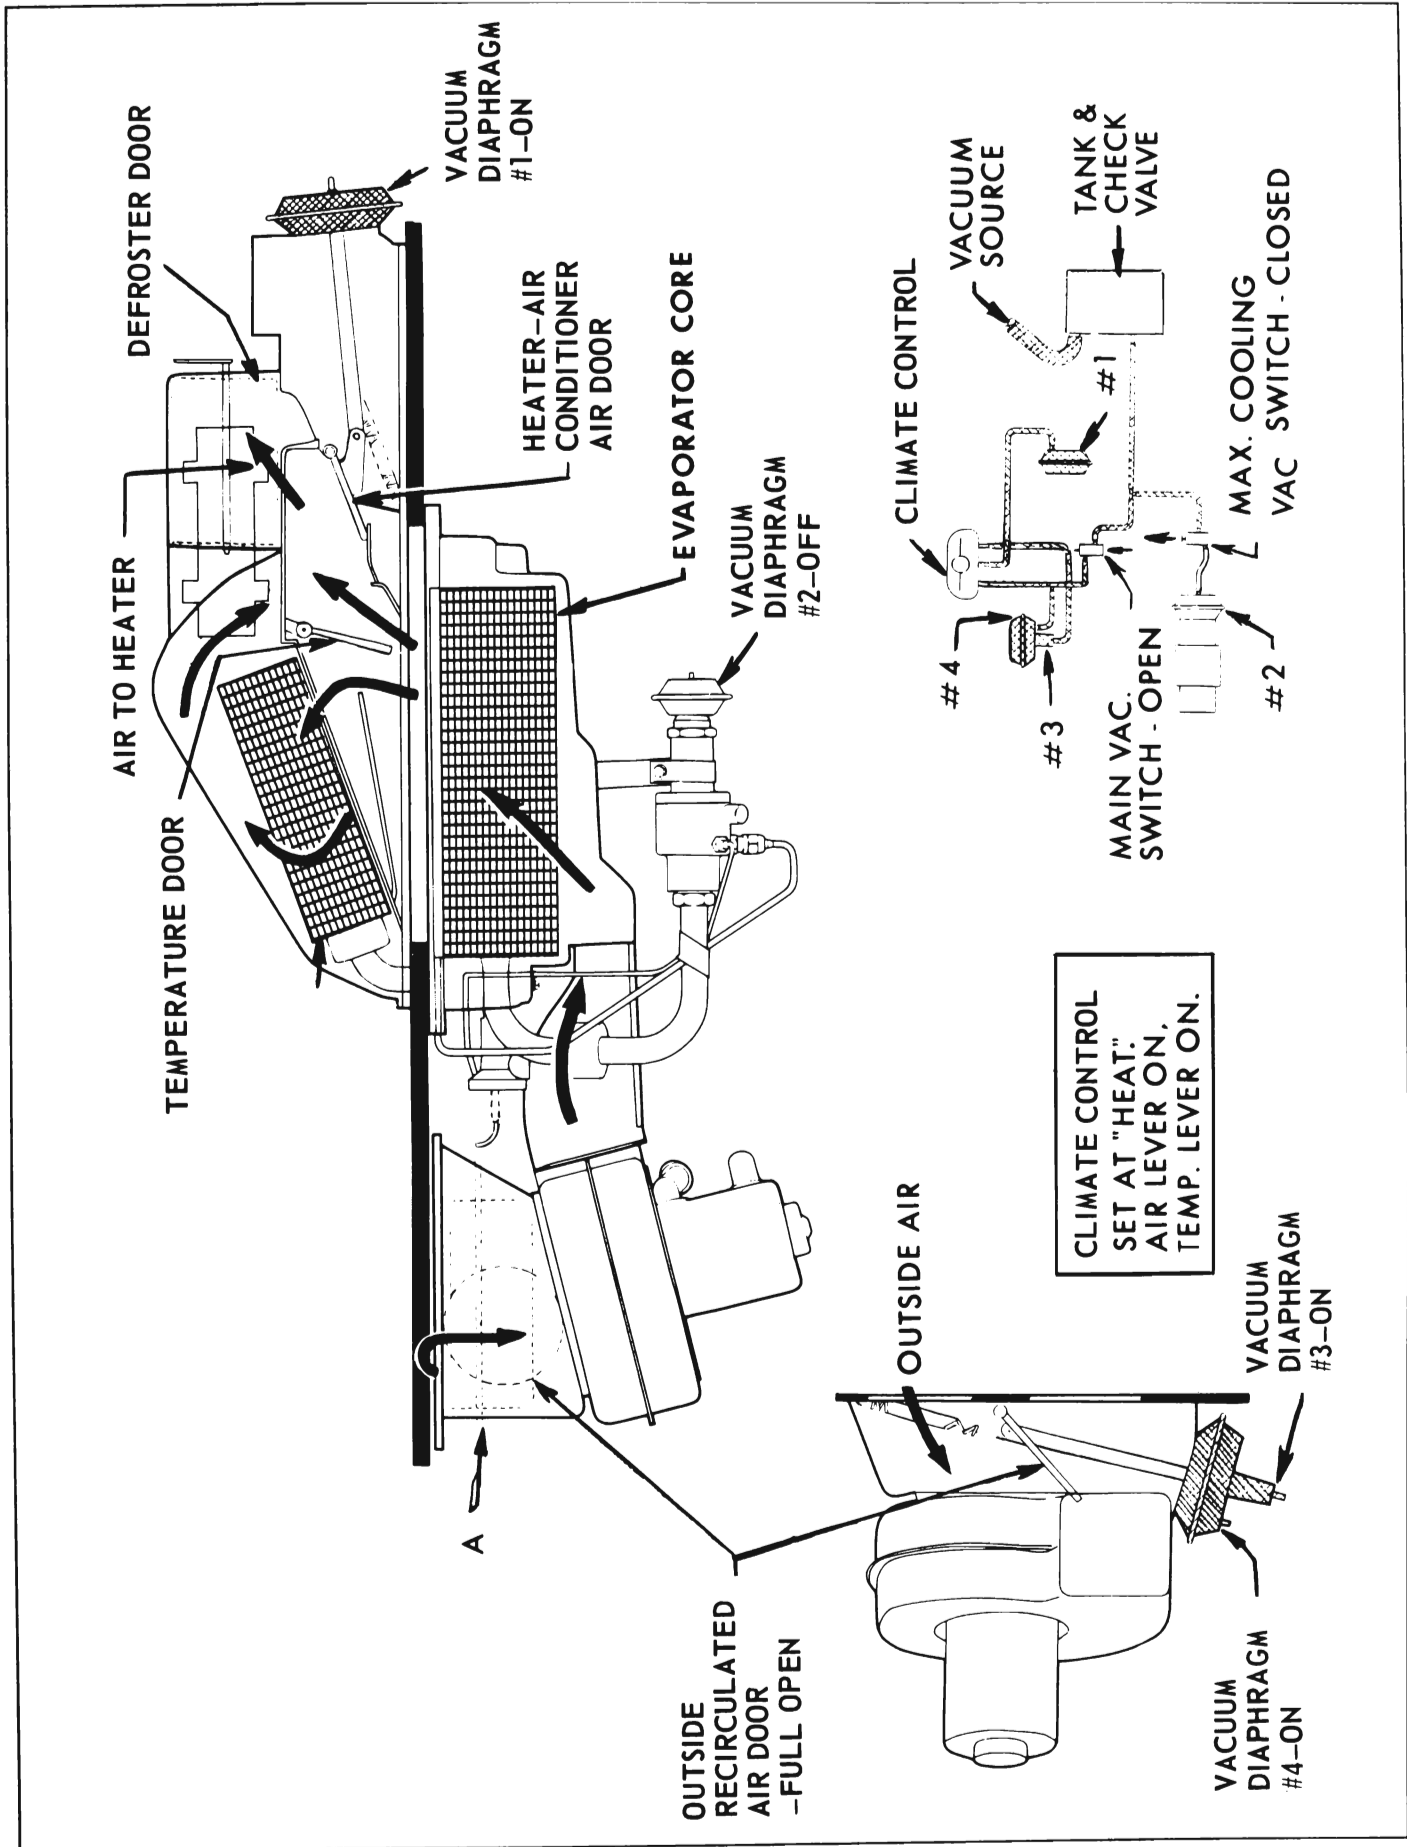

Figure 11-75—Air Conditioner Off, Heater On - 4400, 4600 and 4800 Series
The outside-recirculated air door is normally held closed by a spring. When vacuum is applied to the #4 section of the dual stage vacuum diaphragm, it is positioned at the recirculated or one-fourth open position. When vacuum is applied to both the #3 and #4 sections of the dual diaphragm, the air door is pulled to the full open or outside air position. See Figure 11-75.
2. Air Conditioner Off, Heater On - When climate control is set at HEAT, the AIR and TEMP levers are moved forward from the off position for heater operation. The main vacuum switch is opened which allows vacuum to be present at the #4 vacuum diaphragm and climate control. The climate control allows vacuum at the #1 and #3 vacuum diaphragms. Thus, the outside-recirculated air door is full open and the heater-air conditioner air door is positioned to direct air through the heater outlets. See Figure 11-75. The first movement of the TEMP lever wire opens the manual water valve to allow water to flow through heater core, positions the temperature door to direct some air through the heater core, and closes the maximum cooling switch (which has no effect on operation of heater) Full movement of the TEMP lever provides maximum heat by positioning the